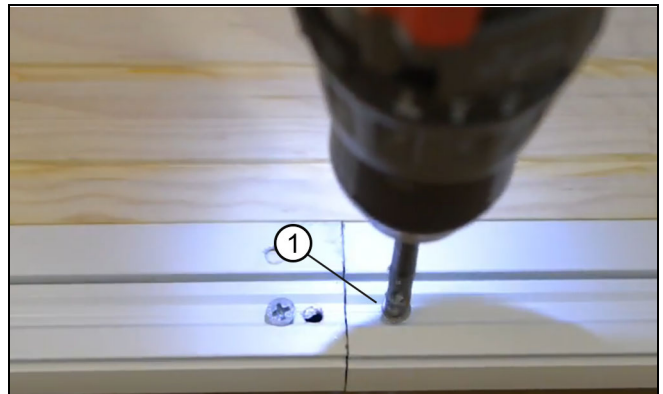

Figure 25
8. Flip the head jamb over. Fasten the frame cladding splicing key. See Figure 25.